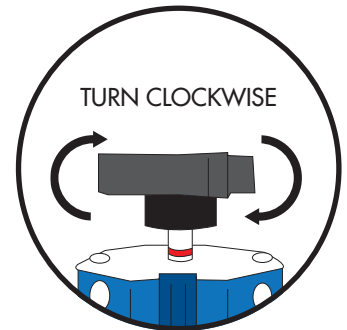

Figure 2
2. Insert GO2 into floor track or floor pocket* on a **slight angle**. Once plunger has dropped into L Track or pocket, **lock GO2 by tightening the knob**. See Figure 2.